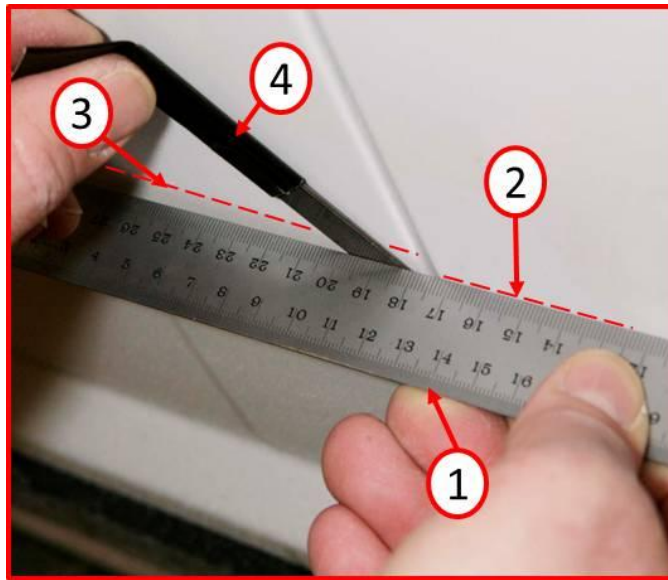

Fig. 3 Measure Overflush
5. Using a feeler gage or equivalent, carefully determine the amount of front door overflush (Fig. 3).